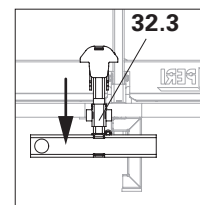
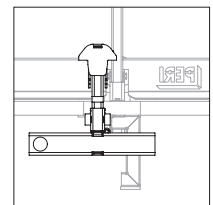

Fig. A13.02c
Fig. A13.02d
5. Push the sliding sleeve (**32.3**) downwards. → The suspension beam is now engaged. (Fig. A13.02c + Fig. A13.02d)